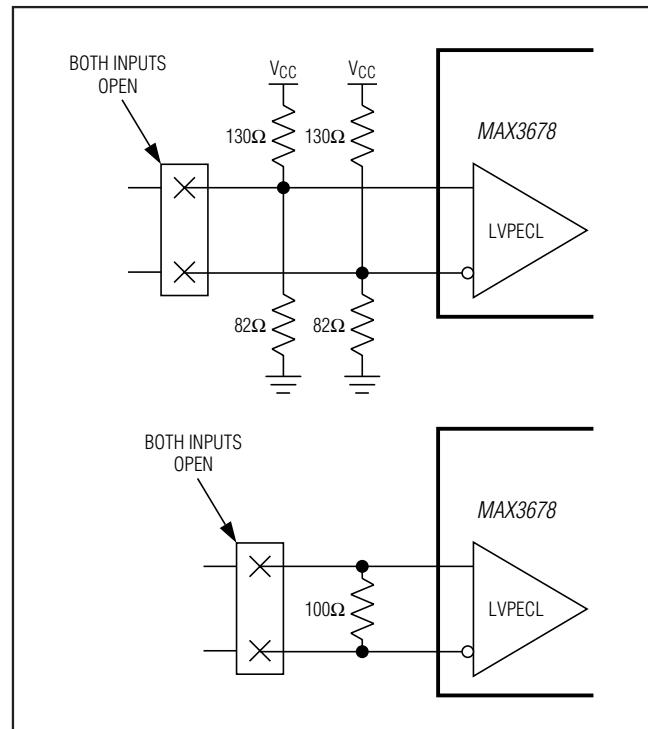

Figure 7. Positions for Open-Circuit Detection
- B) Both inputs (REFCLKx, REFCLKx) are disconnected from the source and have the following terminations connected: (a) 100 Ω differential, (b) 130 Ω to V_{CC} and 82 Ω to GND at each input. See Figure 7 for positions of open circuits that can be detected.